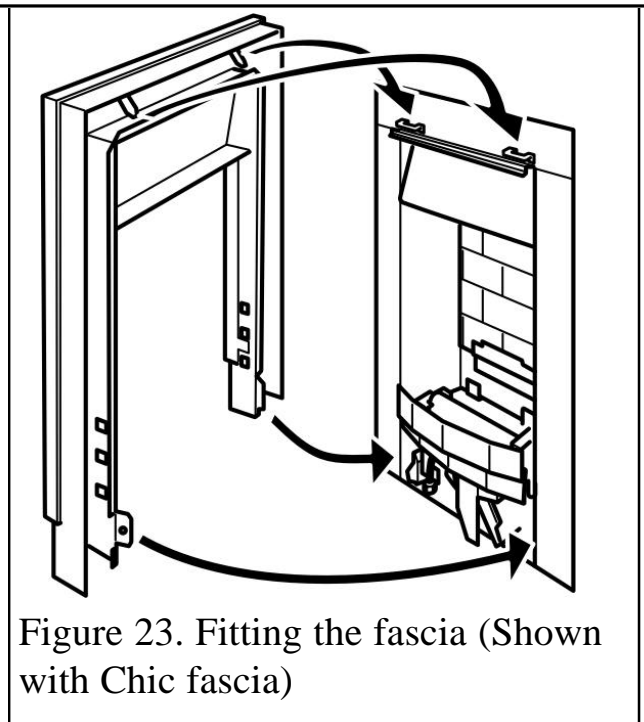
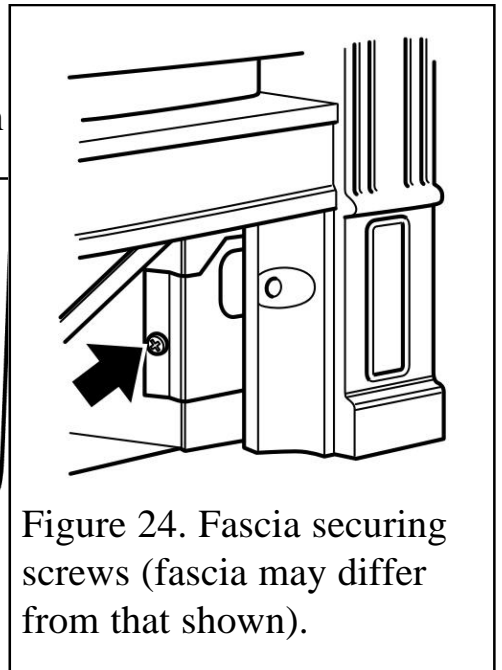

Figure 23. Fitting the fascia (Shown with Chic fascia)
Figure 24. Fascia securing screws (fascia may differ from that shown).
1. Fit the fascia to the appliance by locating the top to the upper hanging brackets (See figure 23), then attaching it to the body of the appliance using the two screws supplied (See figure 24).
3. Fit the fascia to the appliance by locating the top to the upper hanging brackets (Figure 23), then attaching it to the body of the appliance using the two screws supplied (Figure 24)